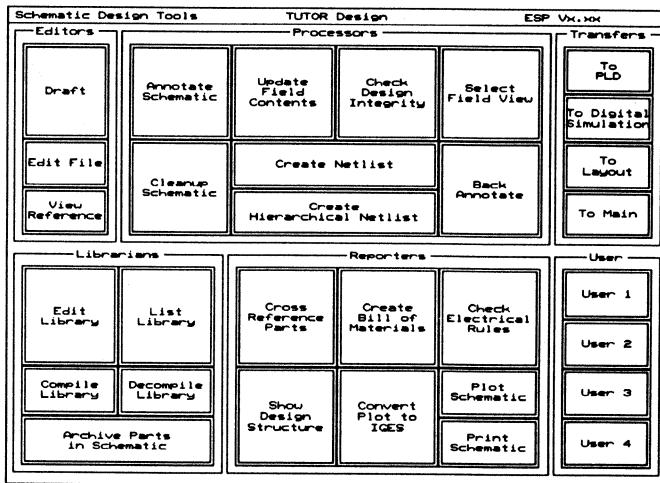

Figure 3-4. The Schematic Design Tools screen.
1. Select **Schematic Design Tools**, then select **Execute**. The Schematic Design Tools screen displays (figure 3-4).